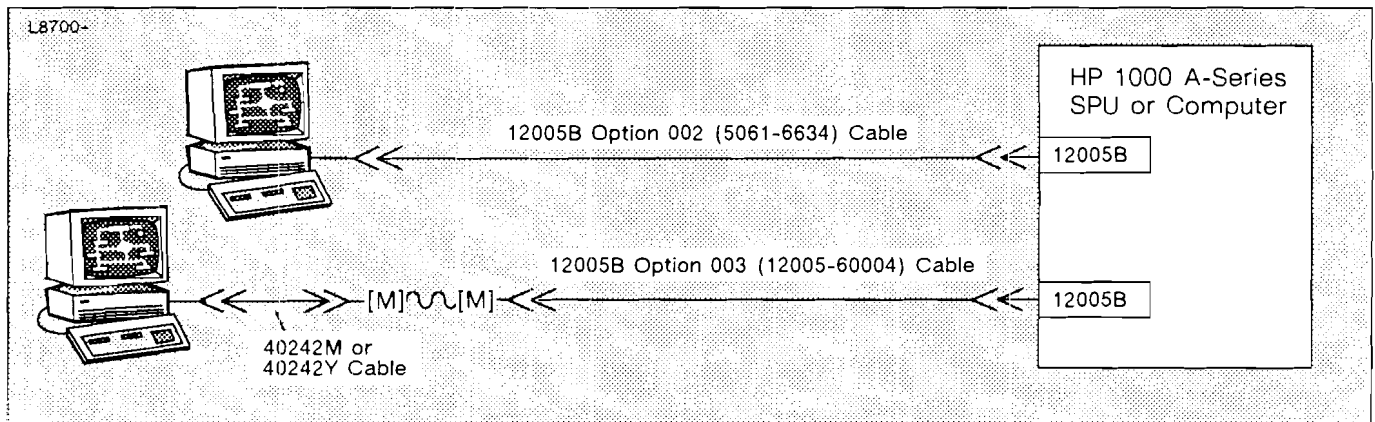

Figure 31. Console/Terminal Connection via 12005B Asynchronous Serial Interface
2. The 12005B Asynchronous Serial Interface can be used to connect one terminal to the system. If no more than two terminals and no other multiplexer-connectable devices are to be connected, the 12005B interface is the lowest priced console/terminal connection choice in A600+, A700, and A900 systems. The appropriate interface-to-terminal cable is ordered as an interface option. See Figure 31, below.